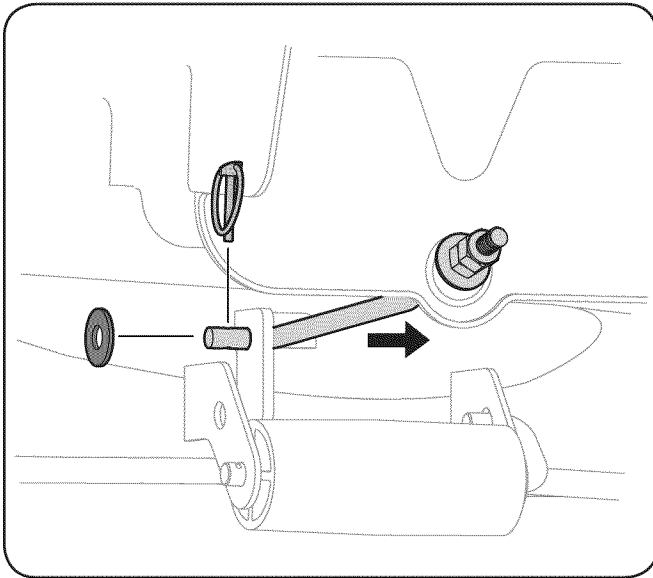

Figure 7-4
- Gently slide the cutting deck toward the front of the tractor, carefully guiding the hooks on the deck off of the deck stabilizer rod. See Fig. 7-4.